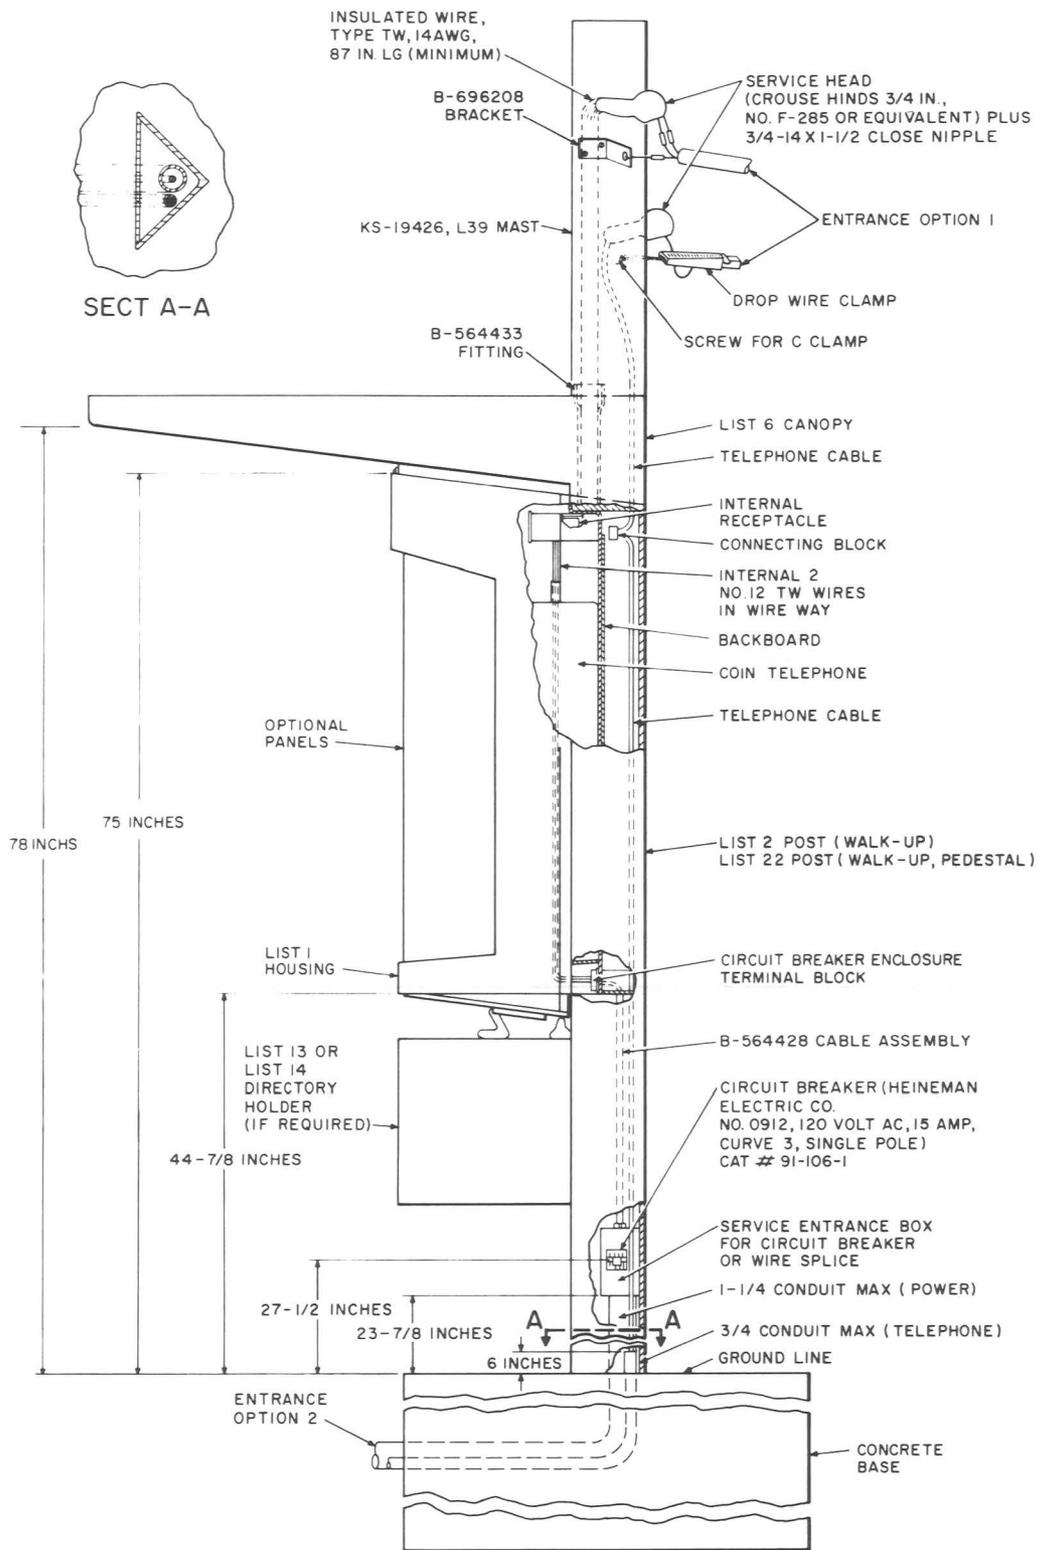

Fig. 17—Installation Requirements for Post or Pedestal Mounting, Walk-Up Location
**3.40** Embed KS-19426, List 2 post(s), for walk-up mountings, or KS-19426, List 3 post(s), for drive-up mountings, in the center of the base to concur with the dimensions shown in Fig. 17 or 18.
**3.57** The wiring for a post mounting may enter from the ground or from a mast (Fig. 17, or 18).